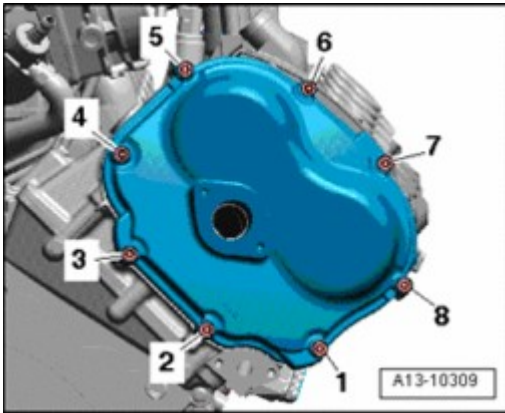

Fig. 173: Identifying Right Timing Chain Cover And Tighten/Removing Bolts Sequence
- Note tightening sequence --> **Fig. 173**.